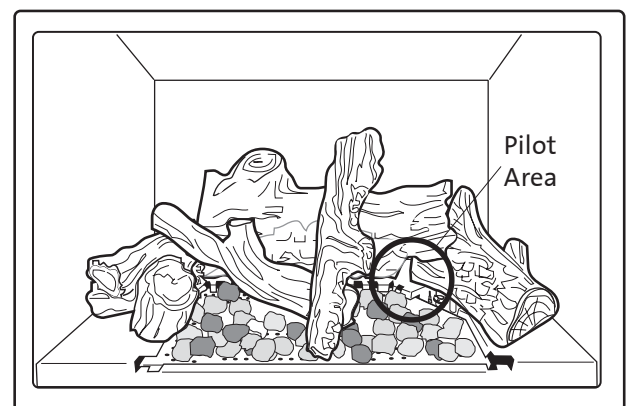

Figure 43. Install ember stones, keeping clearance around the pilot crossover area.
6. Spread a layer of ember stones evenly over the surface of the Burner Plate. Allow for 1/4" clearance between the stones and the inner edge of the Burner Skirt. **Avoid blocking the pilot flame area with ember stones. See Fig. 43.**